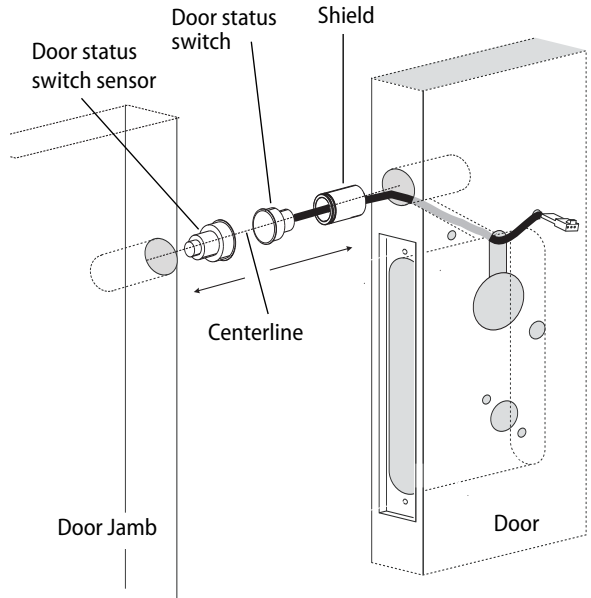

Figure 4 Installing the door status switch
- 1 Locate the centerpoint for the door status switch 2 1/2" (64mm) above the top of the faceplate mortise on the edge of the door as shown in Figure 4.
bit is close to the top edge of the hole. Then drill a 3/8" (10mm) channel at approximately a 35° angle from the door status switch hole into the mortise cavity as shown in Figure 4.